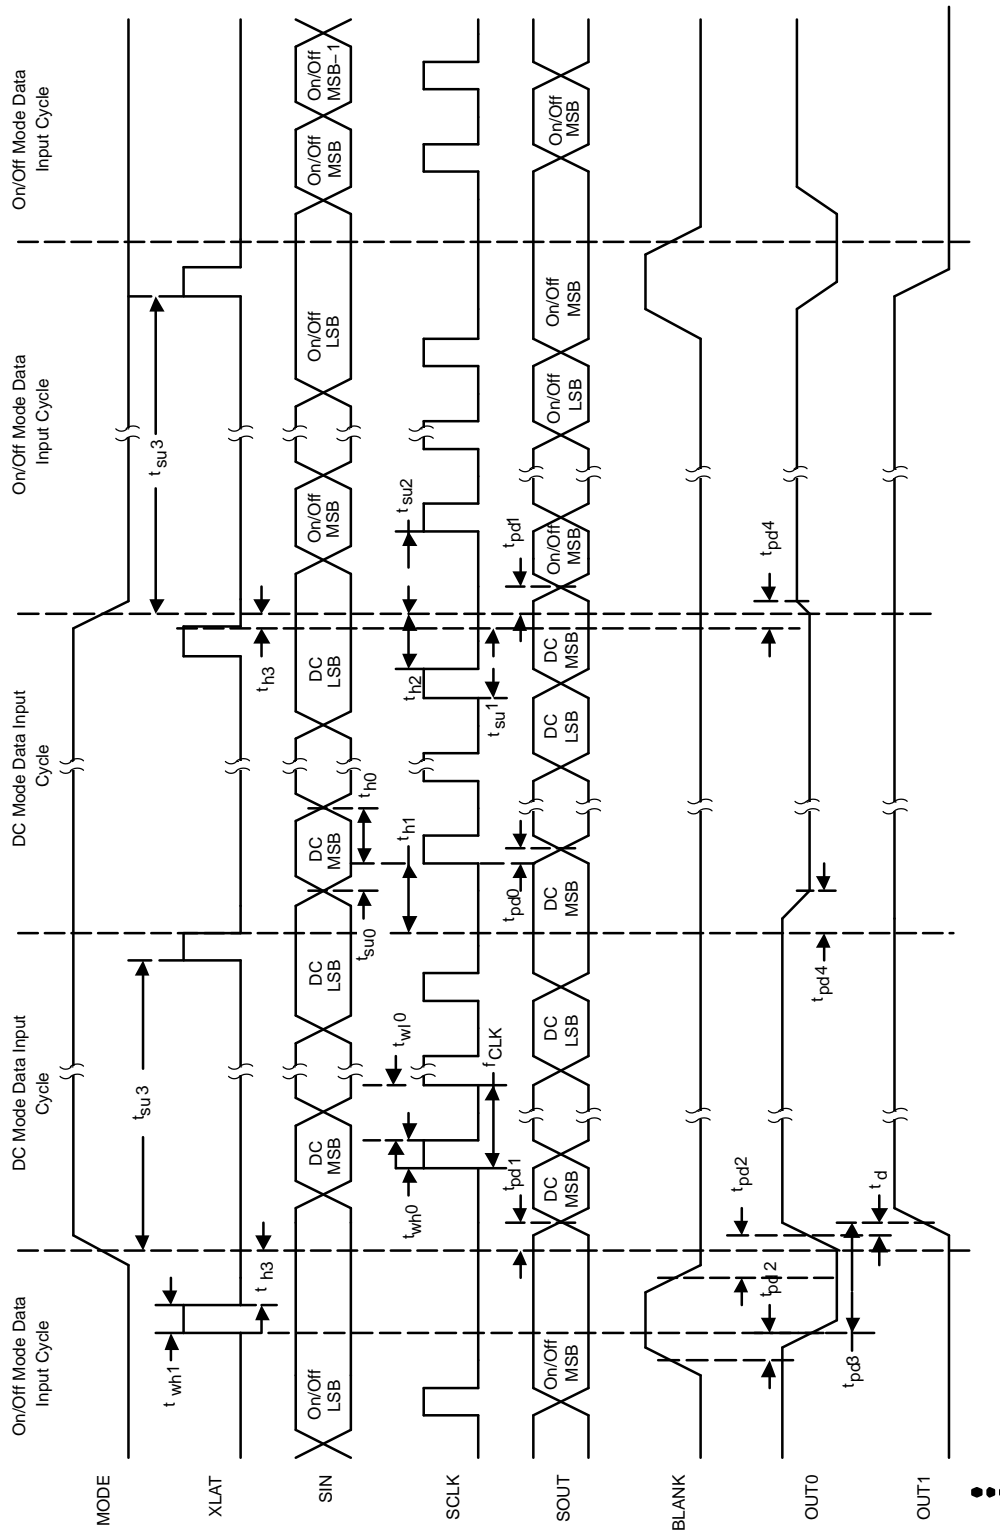

Figure 10. Timing Chart Example for ON/OFF Setting to Dot-Correction
- (3) See Figure 4, Figure 10
- (4) See Figure 5 and Figure 10
- (5) See Figure 5, and Figure 10
MODE must be set to high to input data into the dot-correction register. The internal input shift register is then set to 112-bit width. After all serial data is clocked in, a rising edge of XLAT latches the data to the dot-correction register (Figure 10).
MODE must be set to low to input On/Off data into the On/Off register. The internal input shift register is then set to 16-bit width. After all serial data is clocked in, a rising edge of XLAT, during BLANK = high, is used to latch data into the On/Off register. Figure 10 shows the On/Off data input timing chart.